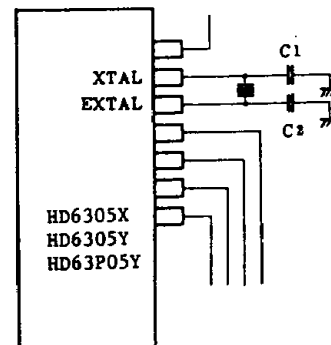

Figure 34 Design of Oscillation Circuit Board
- (1) Locate crystal, ceramic resonator, and load capacity C₁ and C₂ as near the LSI as possible. (Induction of noise from outside to the XTAL and EXTAL pins may cause trouble in oscillation.)
- (2) Wire the signal lines to the neighbouring XTAL and EXTAL pins as far apart as possible.
- (3) Board design of situating signal lines or power supply lines near the oscillator circuit as shown in Fig. 35, should not be used because of trouble in oscillation by induction. The resistor between the XTAL and EXTAL, and pins close to them should be 10MΩ or more. The circuit in Fig. 34 is an example of good board design.